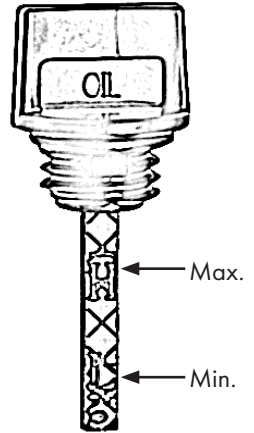

Figure 10
- Read the oil level, see also Fig. 10.
There must be an oil film between the upper and lower markings. If there is no oil film, the oil level is too low, Fig. 10. Top up with more oil. H-High stands for maximum. L-Low stands for minimum.